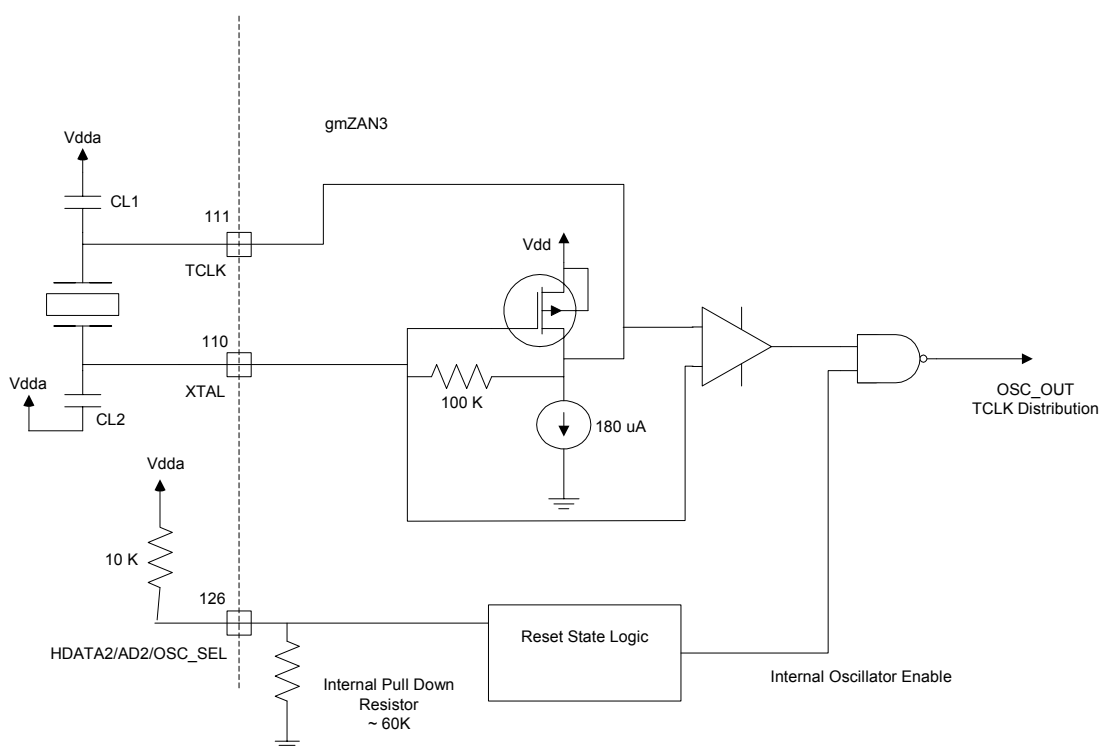

Figure 5. Using the Internal Oscillator with External Crystal
1. Crystal Input Clock (TCLK and XTAL). This is the input pair to an internal crystal oscillator and corresponding logic. A 14.318 MHz crystal is recommended. Other crystal frequencies may be used, but require custom programming. This is illustrated in Figure 5 below. This option is selected by connecting a 10KΩ pull-up to HDATA2/AD2/OSC_SEL. Alternatively a single-ended TTL/CMOS clock oscillator can be driven into the TCLK pin (leave XTAL and HDATA2/AD2/OSC_SEL as N/C in this case). This is illustrated in Figure 8 below. See also Table 14.